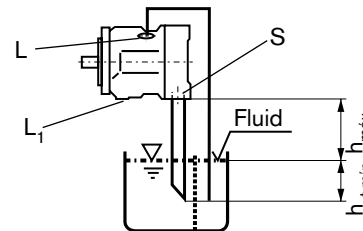

fig. 4
- b) If the min. fluid level is below the top of the pump: pipe "L" and "S" acc. to fig. 4, "L₁" plugged; see also "Limit of conditions".
- a) Mounting above the tank see fig. 4. (see "Limit of conditions")